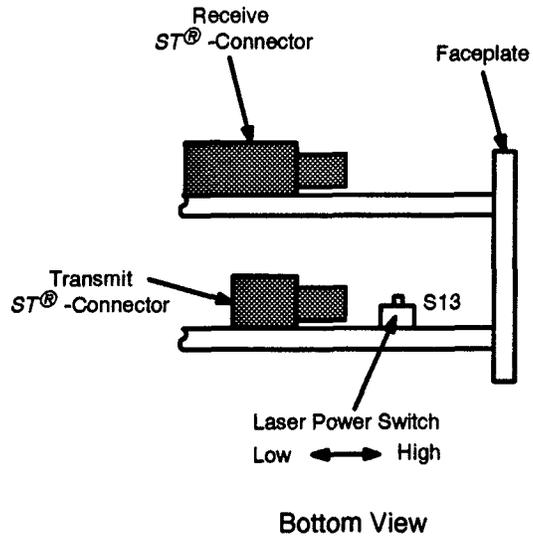

Figure 2 Laser Power Mode Switch
- Switch 13 provisions the laser power. Refer to Table 5 and Figure 2 to locate S13 and set High/Low switch position. Refer to OLIU link budget Tables 8-3 and 8-5 in Chapter 8, *Technical Specifications*, for the system gain for the laser power.